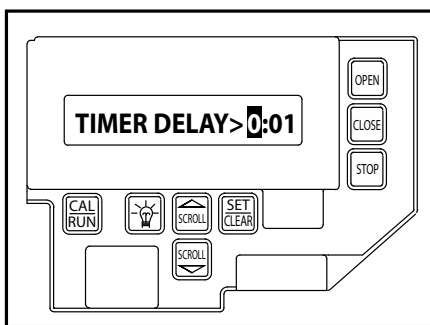

Fig. 5C Set Timer Delay
1. Press the SCROLL DN key until display reads "TIMER DELAY> 0:01 ". (Fig. 5C).